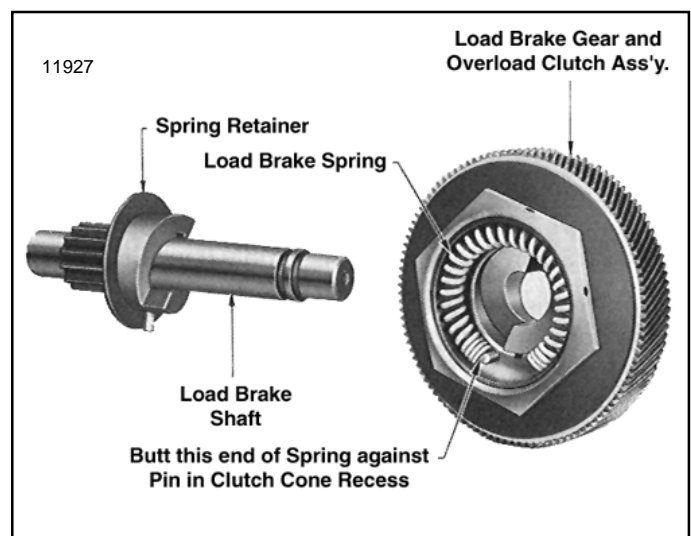

Figure 7-24. Load Brake Gear and Overload Clutch Assembly Removed from Load Brake Shaft Showing Brake Spring Installed in Clutch Cone
(3) Remove load brake gear and overload clutch assembly from output pinion shaft. Pull the spring from its recess in clutch cone (fig. 7-24) but do not further disassemble gear and clutch assembly. See **NOTE** below.
**NOTE:** Disassembly of the load brake gear and overload clutch assembly (fig. 7-24) is not recommended. Clutch pressure is preset by the factory at assembly to provide the correct torque to allow the clutch to refuse loads within a specified range (150% of rated load to 200% rated load). It is suggested whenever there is a need to repair or readjust the gear and clutch assembly that it be sent to an authorized **Budgit** Hoist Repair Station where adequate tools, fixtures and appropriate test equipment is available.
(1) Before assembly, all parts should be cleaned and inspected to determine their serviceability. Replace parts that are worn or damaged.
(2) Reassemble load brake parts following a reverse procedure of the disassembly steps listed above, observing the assembly steps (3) through (6) below.
(3) Before installing spring in its recess in center of clutch cone (fig. 7-24) apply a good grade of ball bearing grease to inside of recess. Spring must be positioned exactly as illustrated, abutted against pin.